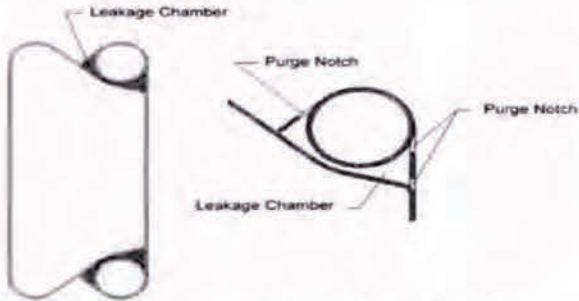

Figure 1.6 Corner Gasket Leakage Chamber
- All gaskets have a double safety feature to prevent fluid intermixing. The isolated port has a double retaining gasket, which forms a leakage chamber. This leakage chamber is connected to the atmosphere by three notches in the gasket. (see Figure 1.6 Below),